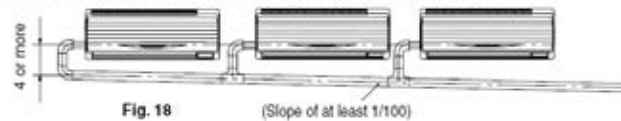

Fig. 18
- In case of converging multiple drain pipes, install them referring to Fig. 18.